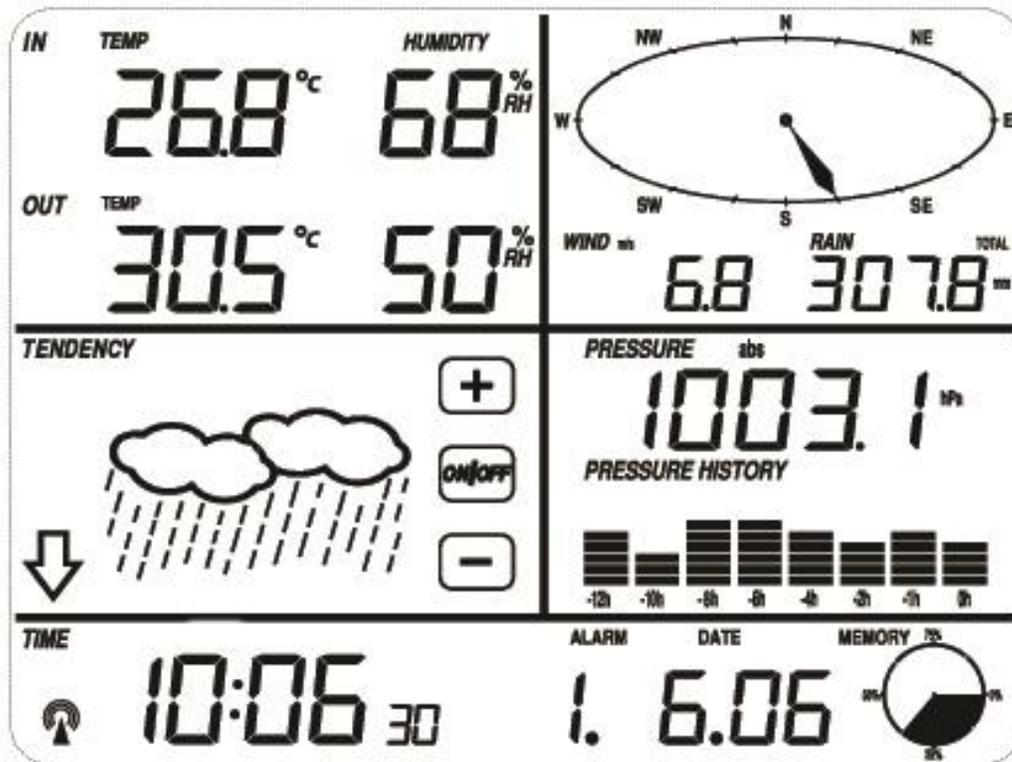

Figure 8
**Note:** All display console touch screen commands are issued by touching (not pressing) the related areas as shown in Figure 8. Pressing hard on the display console may damage the unit.